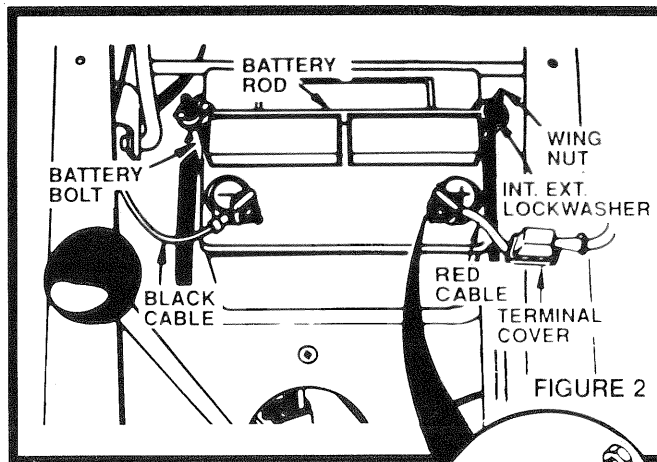

FIGURE 2
- b. Place battery inside chassis, into recessed area below steering wheel, with negative (-) terminal on the left side as viewed from seat (Fig. 2).
- c. Secure the battery in position with the two Battery Bolts, Battery Rod and the two Wing Nuts (Fig. 2).
- a. Position Terminal Cover over RED Battery Cable (Fig. 2). Connect Cable to Positive (+) Battery Terminal with Hex Bolt, Flat Washer, Lockwasher and Hex Nut (Fig. 2 - INSET). Tighten securely. Place Cover over Terminal. NOTE: PULL TERMINAL COVER FORWARD TO ENCLOSE BATTERY TERMINAL.
- b. Connect BLACK Ground Cable to Negative (-) Battery Terminal with remaining Hex Bolt, Flat Washer, Lockwasher, and Hex Nut (Fig. 2 - INSET). Tighten securely.